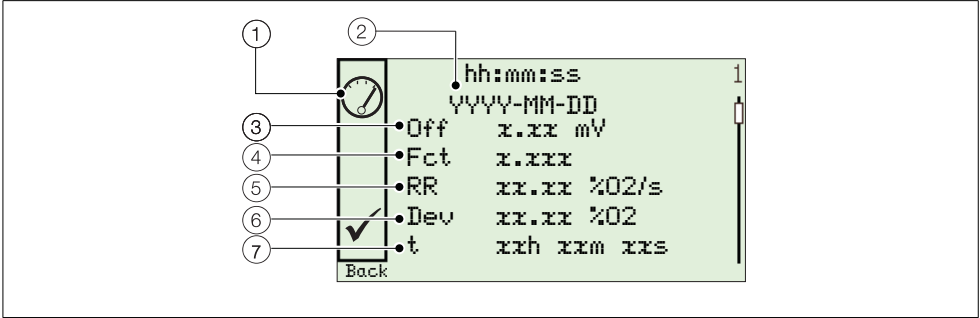

Fig. 9.2 Typical Performance Log and Performance Code Structure
When the *Performance Log* is selected, an icon (① in Fig. 9.2) at the left side of the display indicates a successful or failed calibration or accuracy check; or if a new probe / cell has been fitted. Icon types are shown in Table 9.6 below: